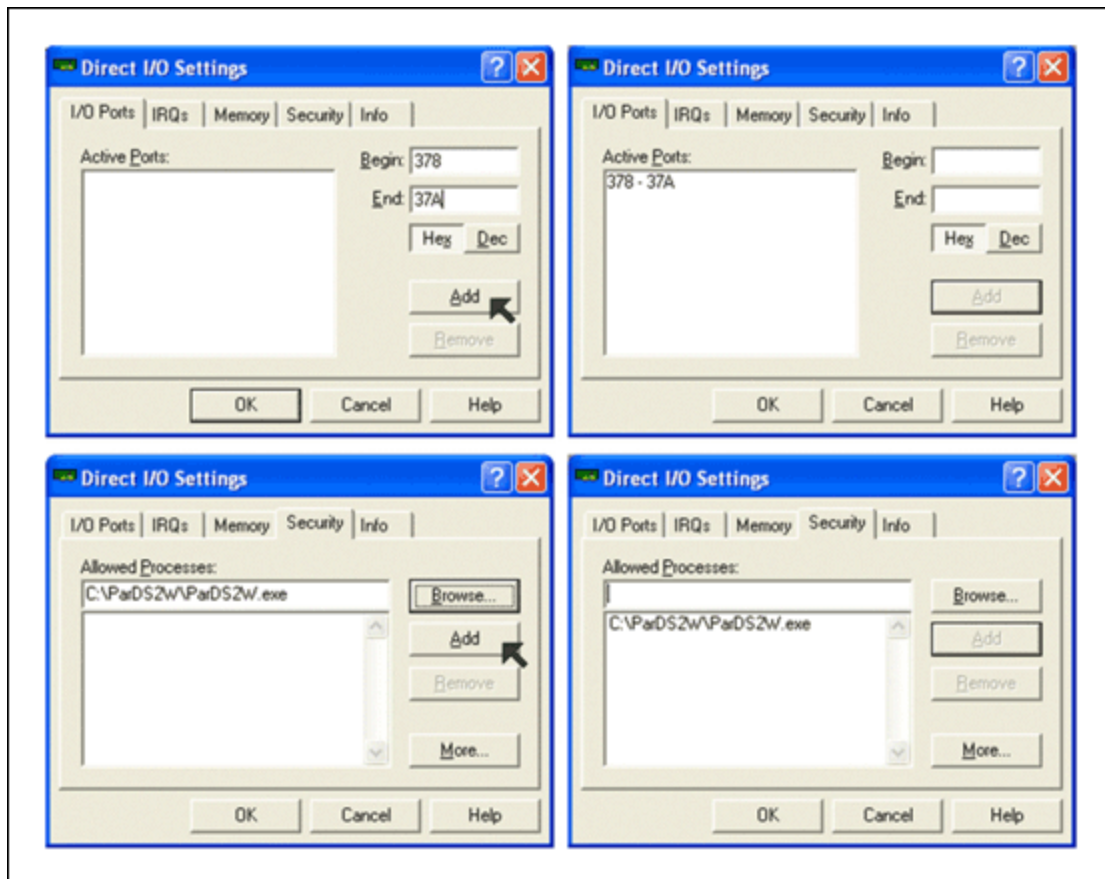

Figure 1. Configuring Direct I/O to Work with ParDS2W.exe.
3. Once Direct I/O is installed, start the Direct I/O control panel (**Figure 1**) from the start menu.